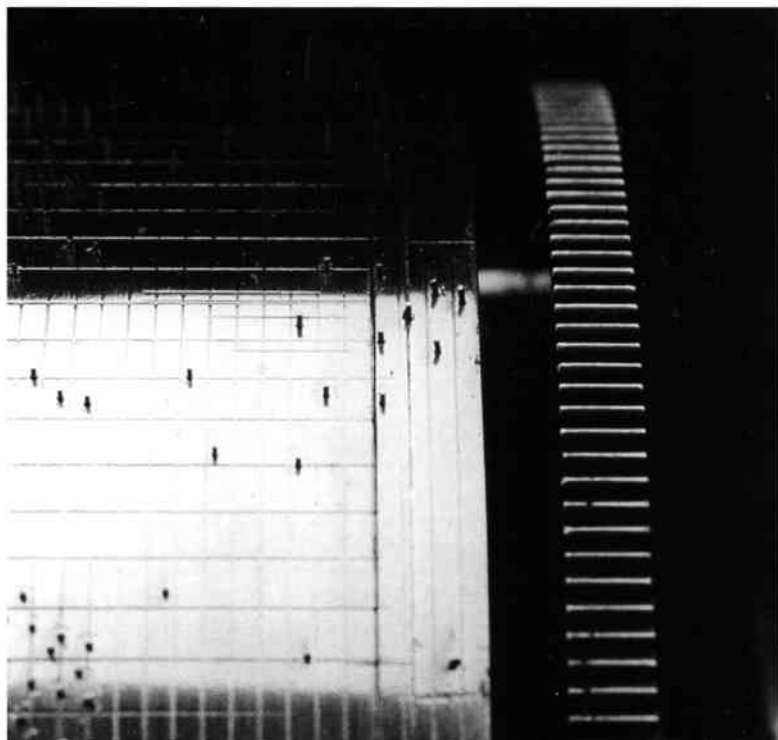

Fig. 17. Extra pins in end cap.
2. Often a few extra cylinder pins are fitted to cylinder end cap (fig.17).